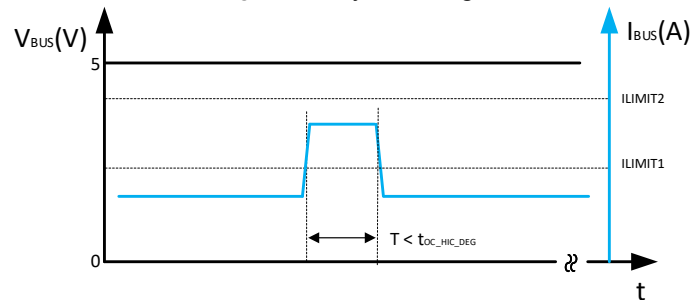

FIG 10-18. Two level Current Limit Methodology with ext MOSFET Case 1
- Case 1: If the load current I_{BUS} is in the range $I_{LIMIT2} > I_{BUS} > I_{LIMIT1}$, and the duration $< t_{OC_HIC_DEG}$, the external MOSFET will remain on and V_{BUS} will stay unchanged, as shown in FIG 10-18.